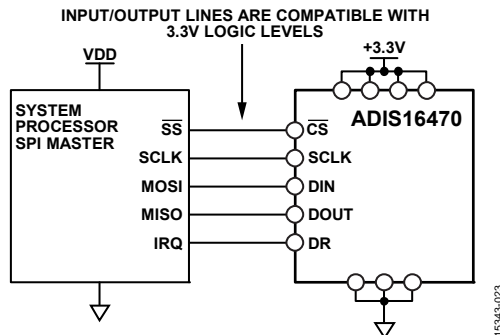

Figure 21. Electrical Connection Diagram
The SPI provides access to the user registers (see Table 8). Figure 21 provides the most common connections between the ADIS16470 and a SPI master, which is often an embedded processor that has a SPI-compatible interface. In this example, the SPI master uses an interrupt service routine to collect data every time the data ready (DR) signal pulses.